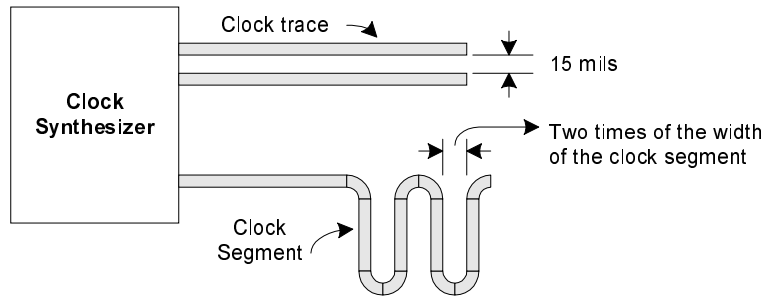

Figure 2-18. Clock Trace Spacing Guidelines
- The minimum space between one clock trace and adjacent clock traces is 15 mils. The minimum space from one segment of a clock trace to other segments of the same clock trace is two times of the clock width. That is, more space is needed from one clock trace to others or its own trace to avoid signal coupling (see Figure 2-18).